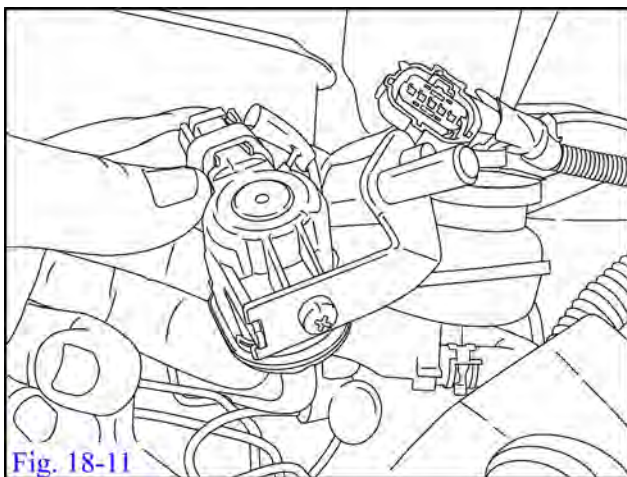

Fig. 18-11
- (n) Remove the factory VSV bracket from the VSV. Replace bracket using the supplied TRD bracket and secure using the factory fastener. (Fig. 18-11).